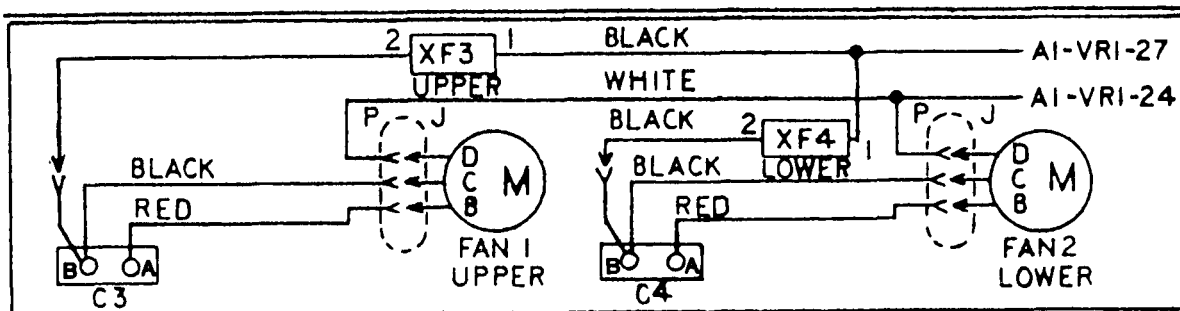

Figure 5-6. Wiring Diagram, Fan Assembly.
2. FAN(S) INOPERATIVE (O).
Step 3. Open Panel 5 service door access (paragraph 5-21) for Fan 2 and remove Panel 6 (paragraph 5-22) for Fan 1 and make voltage or continuity checks. See Figure 5-6.	Replace fan, cabling, or capacitor.